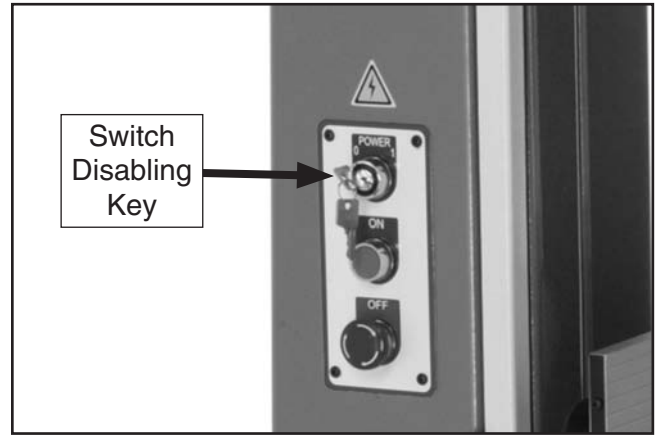

Figure 48. Switch disabling key and ON/OFF switch.
3. Turn the machine **ON** to verify that it is operating correctly by turning the switch disabling key (**Figure 48**) to "1" .
9. Turn the switch disabling key to "0", as shown in **Figure 48** on **Page 30**.